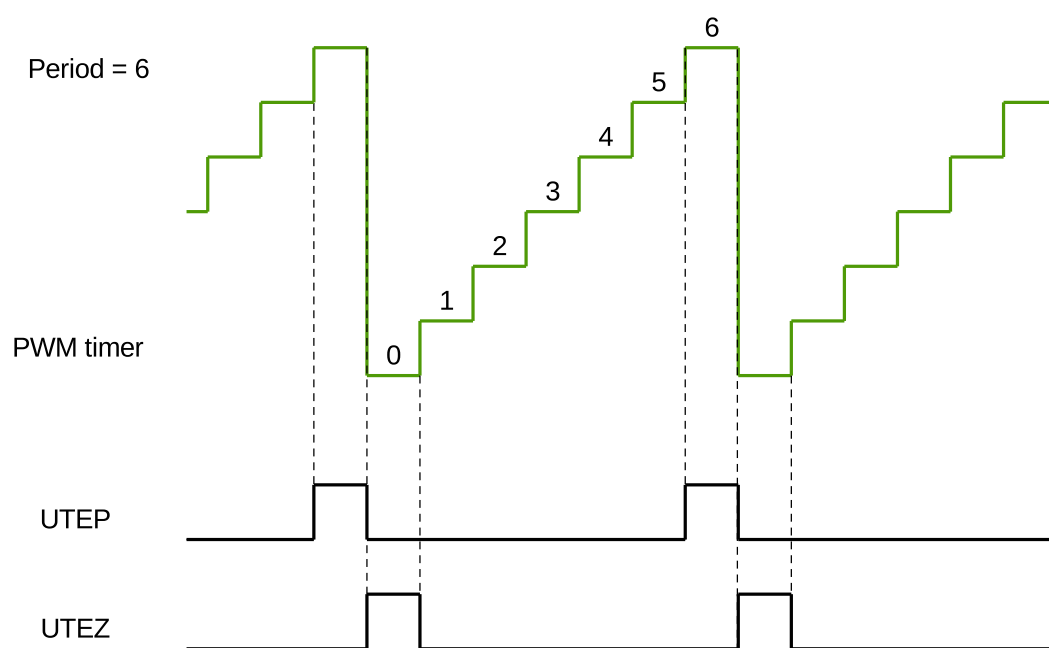

Figure 41.3-9. UTEP and UTEZ Generation in Count-Up Mode
Figures 41.3-9 to 41.3-11 show the timing waveforms of U/DTEP and U/DTEZ.
1. UTEP and UTEZ do not happen simultaneously. When the PWM timer is in Count-Up Mode, UTEP will always happen one cycle earlier than UTEZ, as demonstrated in Figure 41.3-9, so their action on PWM signals will not interrupt each other. When the PWM timer is in Count-Up-Down Mode, UTEP will not occur.